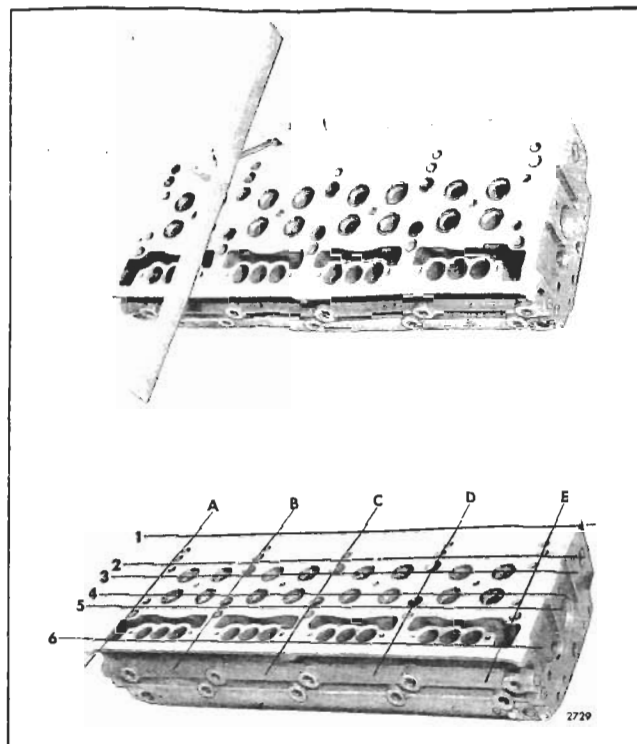

Fig. 7 - Checking Bottom Face of Cylinder Head
- a. Use a heavy, accurate straight-edge and feeler gages, tool J 3172, to check for transverse warpage at each end and between all cylinders. Also check for longitudinal warpage in six places as shown in Fig. 7. Refer to Table 1 for maximum allowable warpage.